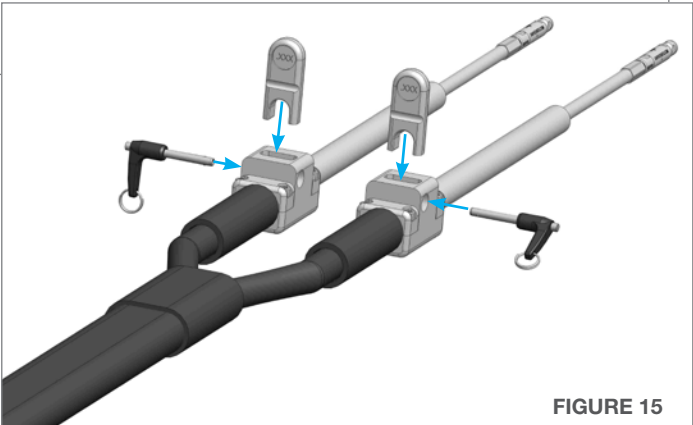

FIGURE 15
15. Replace the Hose Stop Collets and Quick Release Pins. (Figure 15)